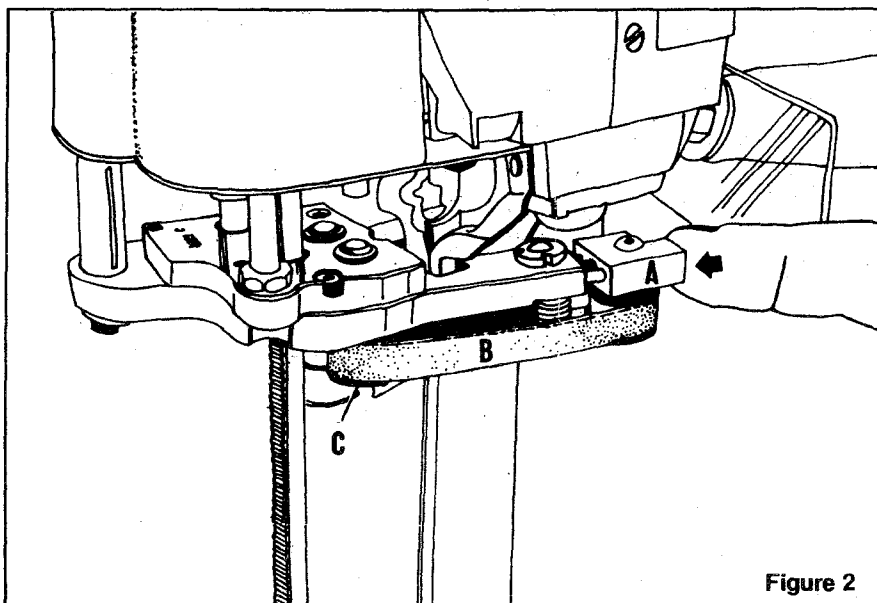

Figure 2
## 2.5 TO CHANGE FLEXIBANDS (Figures 2 and 3)
a) Figure 2: Push Block "A" to release right (upper) FlexiBand "B." Remove FlexiBand from Block and then from Drive Pulley "C."